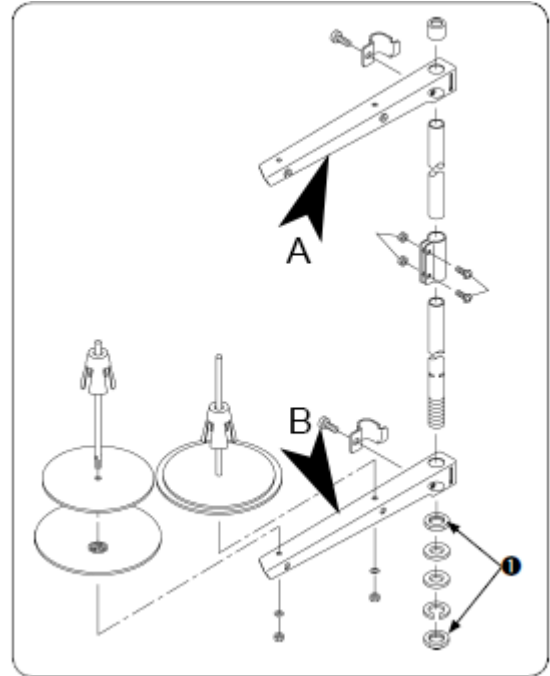

Figure 5
1. Assemble the thread stand as shown in figure 5.
3. Once the thread stand is assembled, it is important to note that the upper arm of the thread guide (Fig 5, Item A) is aligned directly above the lower arm (Fig 5, Item B). failure to align these may cause tension issues, thread breakages and / or other machine issues due to poor threading.